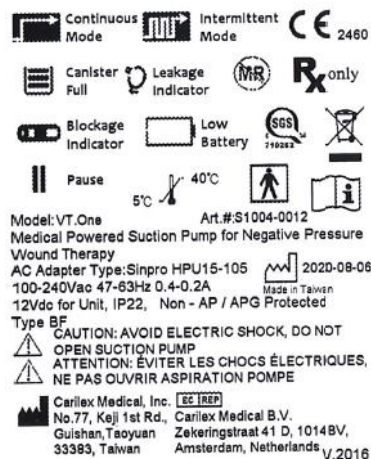

Fig: 14
5. Reverse the procedure to install the new bottom case, ensuring that the information sticker (Fig: 14) is replaced securely using super glue if required, that the wire and silicone tube routing is exactly as found and that none of the silicone tubes are kinked then complete a function test once the power unit is closed.